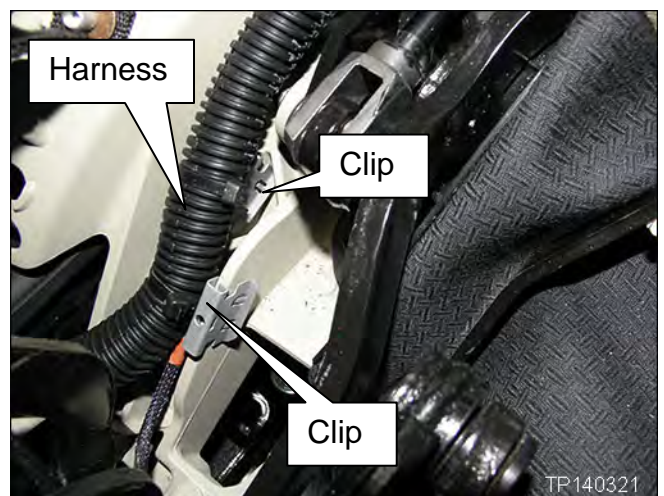

Figure A27
14. Take loose the two harness clips shown in Figure A27.